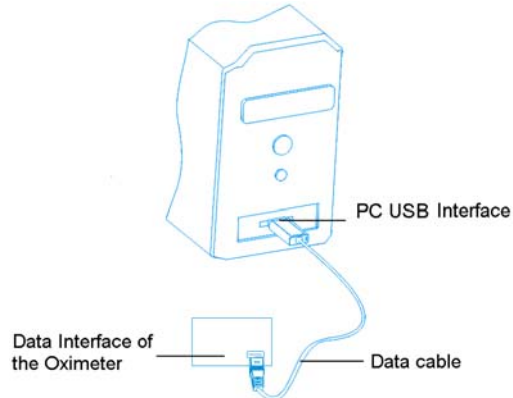
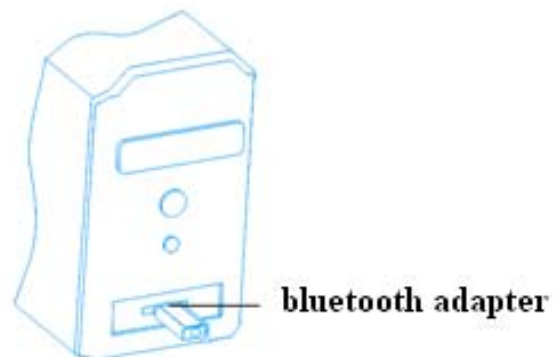

Figure 2-17A Upload by USB cable
Figure 2-17B Wireless data transmission
3. Connect the Oximeter and computer by data cable (refer to Figure 2-17A); or insert one adapter into the PC(refer to Figure 2-17B).